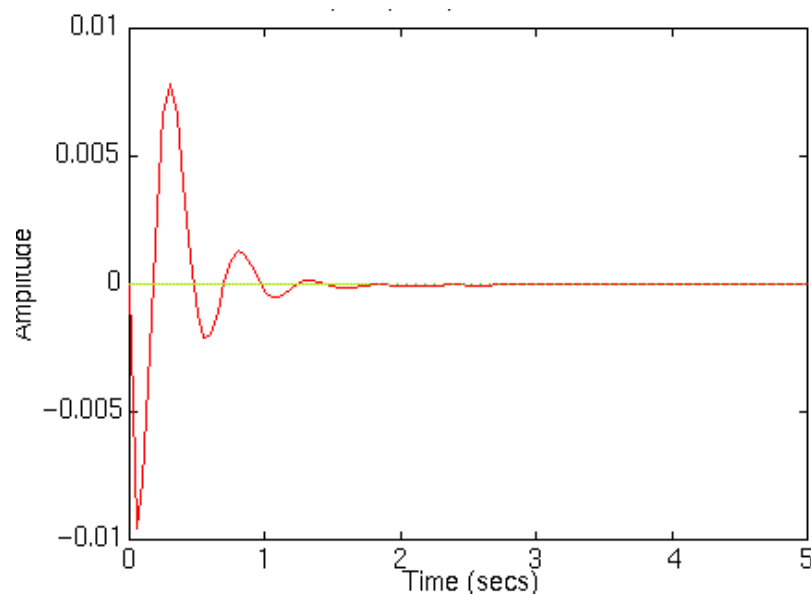
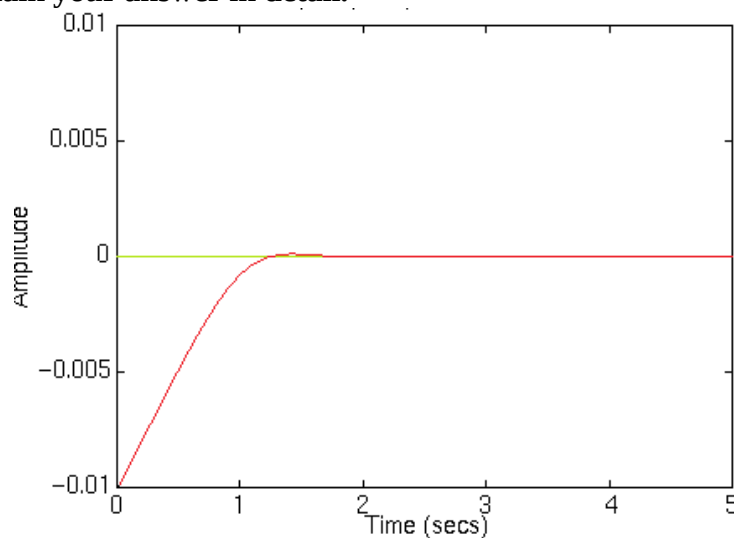

Figure 1: Graph of a PID Controller
Figure 2: Graph of a PID Controller
Q1. Figure 1 is a graph of a PID Controller.
Figure 2 is a graph of a PID Controller. Notice how the red line sets itself immediately to the desired set point. For a PID controller with a response as shown in Figure 1, what changes should be made to the  $K_p$ ,  $K_i$  and  $K_d$  values in order to achieve the graph in Figure 2? Explain your answer in detail. (7.5)
- In the graph shown in Figure 1, it is observed that rise time is very less and it is overshooting hence in the second figure it more so that  $K_p$  value is decreased a lot.
- After the  $K_p$  value is decreased, The oscillation in the fig 2 is reduced with respect to fig 1, to achieve this  $K_d$  value is increased because  $K_d$  helps in decreasing the oscillations. After the change of value of  $K_p$  and  $K_d$ , if there is steady state error, then  $K_i$  is increased because  $K_i$  helps in bringing the steady state error to zero. If there are no oscillations or steady state error  $K_d$  and  $K_i$  are not changed.